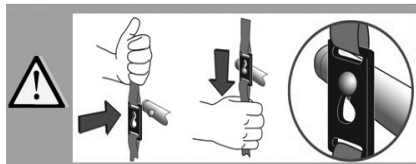

Fig. 5
- **Always check that the sling attachment clips are fully in position before and during the commencement of the lifting cycle, and in tension as the resident's weight is gradually taken up. Always check that the clip is mounted on the attachment lugs in its most downward position (See Fig. 5 & 6).**